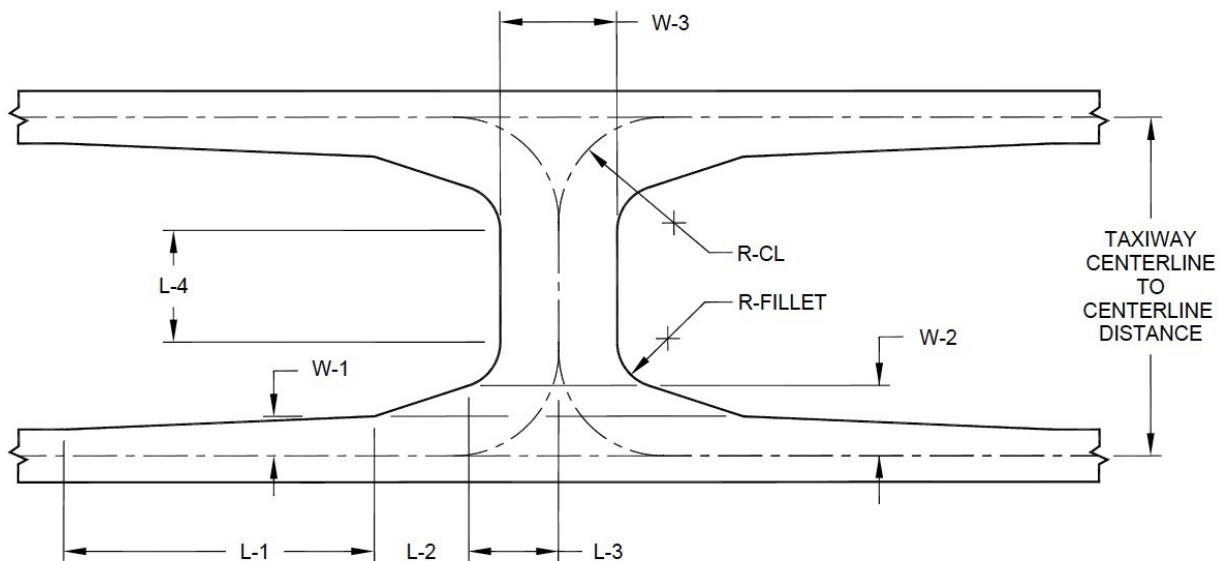

Figure 4. General Layout of a Crossover Taxiway (source: FAA AC 150/5300-13A Figure 4-16).
- a) Specify (**do not draw**) the dimensions of a crossover taxiway shown in Figure 4 using the FAA taxiway design methods contained in Chapter 4 of the Advisory Circular 5300-13A. The critical aircraft is the Boeing 787-8. Specify all dimensions shown in Figure 4 considering the critical aircraft operating at the airport.